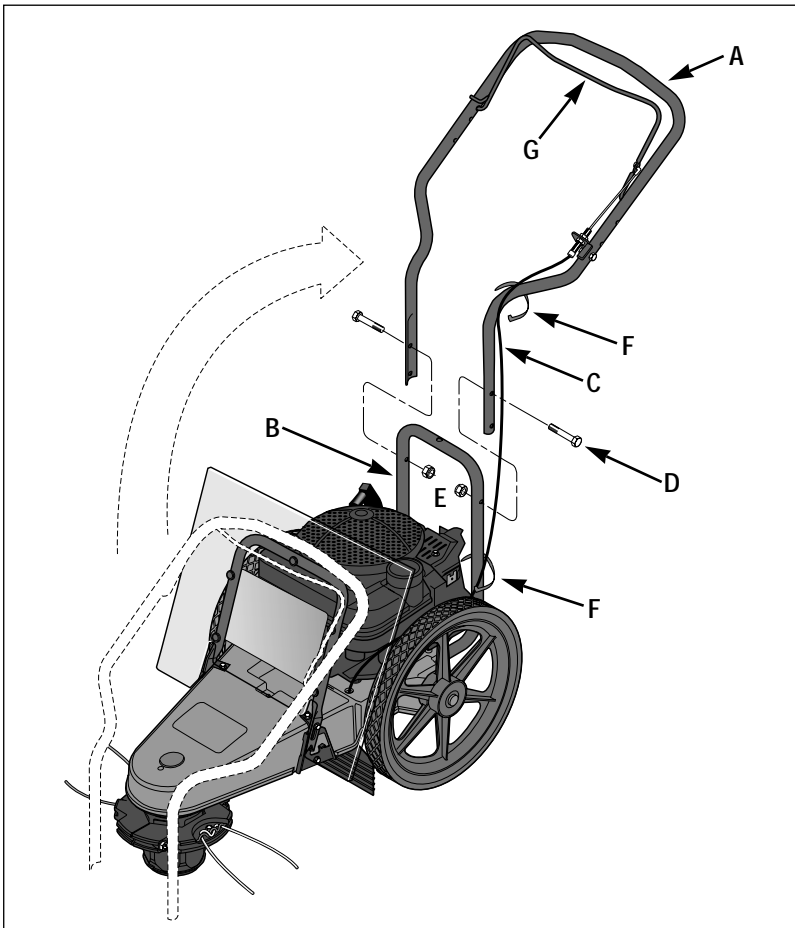

Figure 2-2: Handlebar installation.
1. Cut the plastic tie and remove the tape that secures the control bail (G, Figure 2-2) to the handlebar (A).
2. Carefully lift the handlebars (A, Figure 2-2) to rear of the unit and align the handlebar legs with the handlebar support bracket (B).
3. Route the trimmer head control cable (C, Figure 2-2) to the outside of the handlebar.
4. Select the low or high height setting holes in the handlebar legs and attach the legs with the two 5/16-18 x 2 hex hd. screws (D) and 5/16-18 locknuts (E) from the hardware bag.
5. Use two cable ties (F, Figure 2-2) to secure the trimmer head control cable (C) to the handlebar as shown.